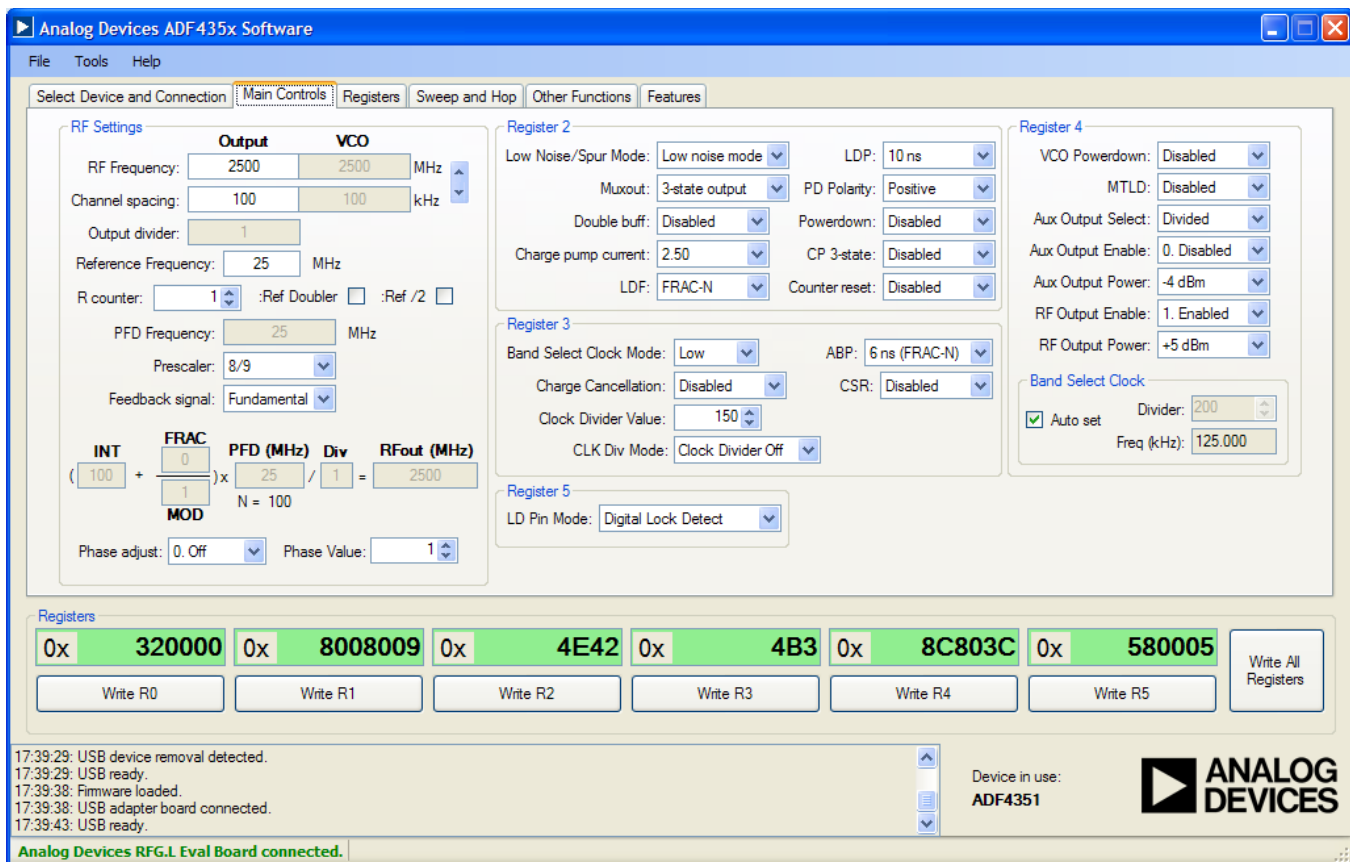

Figure 19. Software Front Panel Display—Main Controls
The **Main Controls** tab controls the PLL settings (see Figure 19).
7. In the software window, click **Write All Registers**. See Figure 19 for the suggested setup.